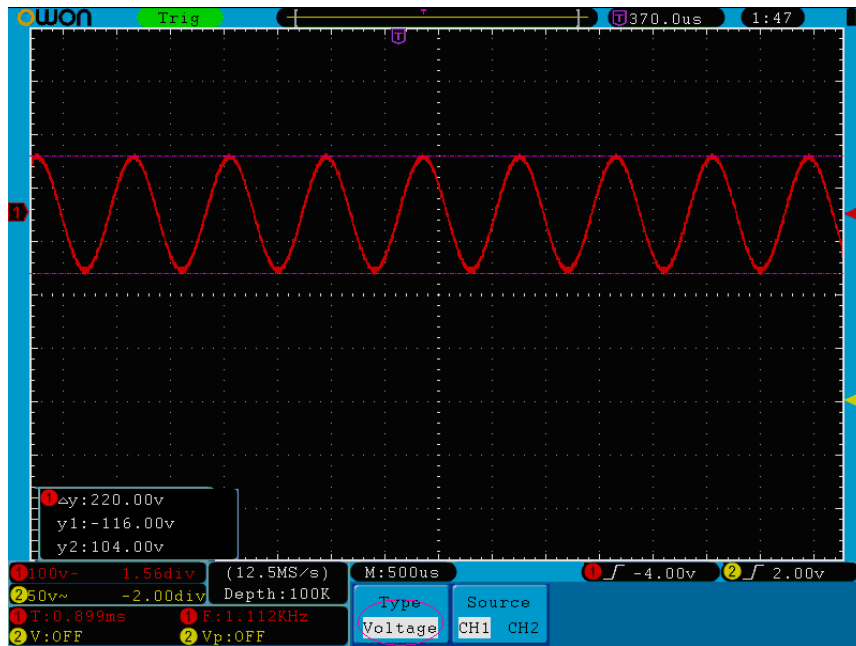

Figure 5-71 Waveform of Voltage Cursor Measurement
4. According to the measured waveform, adjust the positions of Cursor1 and Cursor2 by turning the **VERTICAL POSITION** knob of CH1 and CH2. Cursor increment window at the left bottom of waveform shows absolute value of D-value of cursor 1 and cursor 2 and the present position of the two cursors (see *Figure 5-71*).